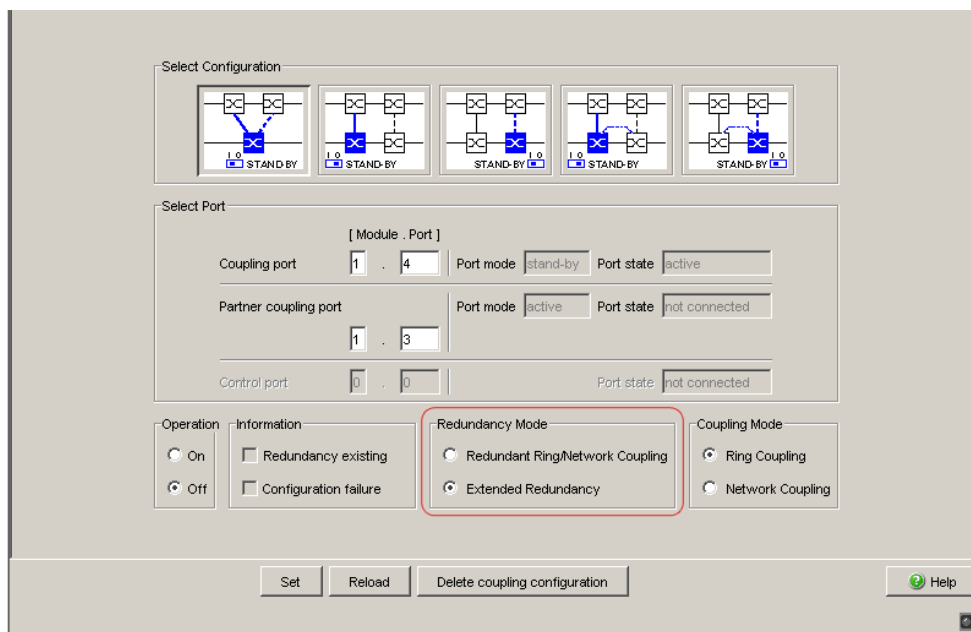

Figure 26: One-Switch coupling: Selecting the redundancy mode
- In the “Redundancy Mode” frame, select (see figure 26)